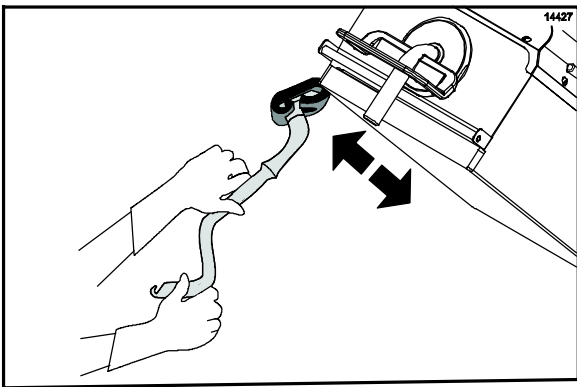

Figure 99
26. Scrub the outer edges of the right and left platens. (See Figure 99.)